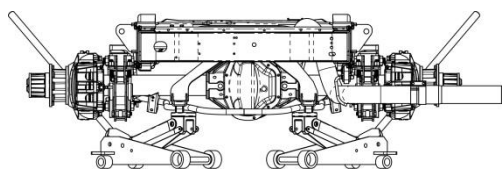
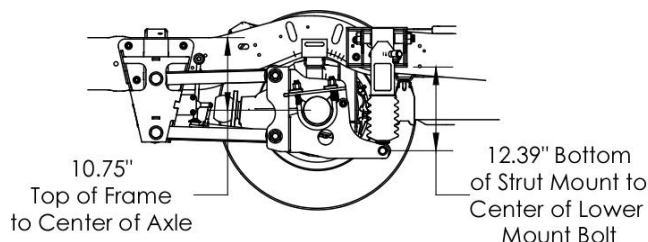

Figure 22. Jack under rear axle
Figure 23. Design Ride Height
6. Loosely attach the Track Bar to the Track Rod Mount Bridge and the frame attached Track Rod Mount using (2) 5/8"-11 x 4.00" Hex Flange Screws and (2) 5/8"-11 Locking Hex Flange Nuts.
7. Jack each side of the axle until approximately design ride height position. See Figure 22 and Figure 23.